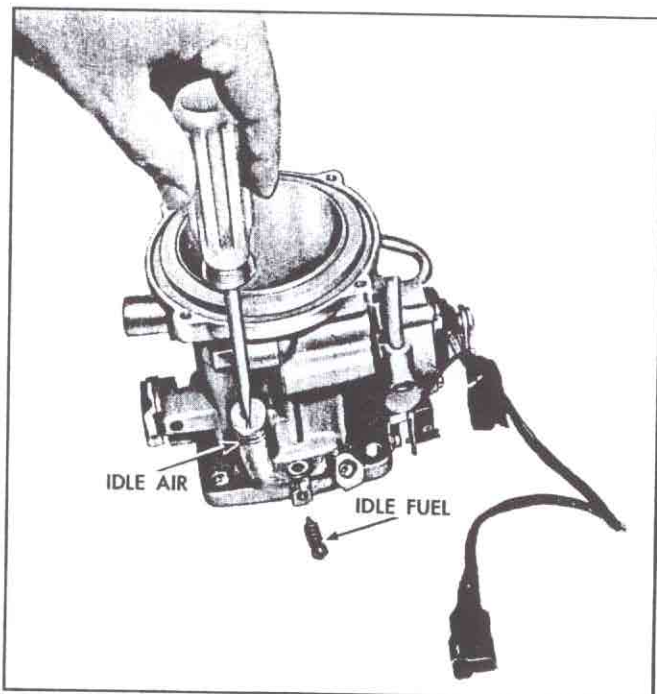

Fig. 126—Removing Idle Fuel and Idle Air Adjusting Screws
1. Remove the idle air and idle fuel adjusting screws and springs (fig. 126).